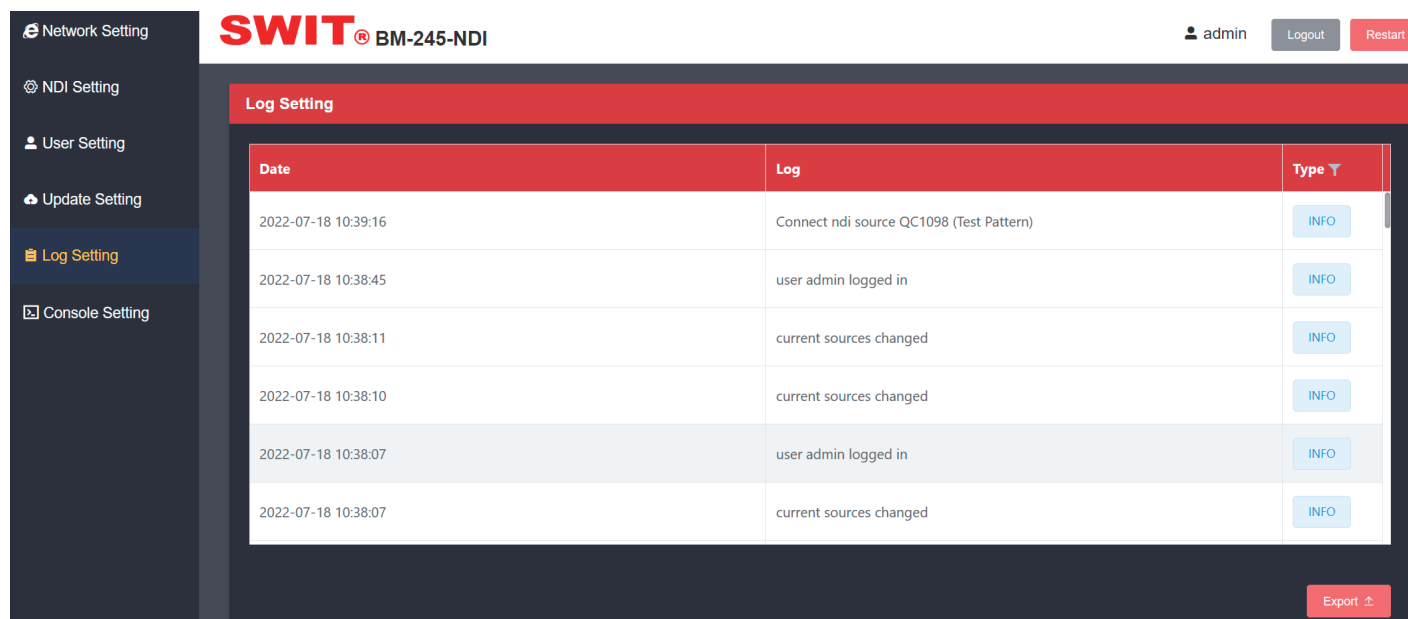

Fig.10
2. All logs are displayed in the box below Log. Date is the Date of logging, Log is the Log information, and Type is the Log Type. Click Type to select a Log Type from the drop-down list box. See Fig.10 below for details.